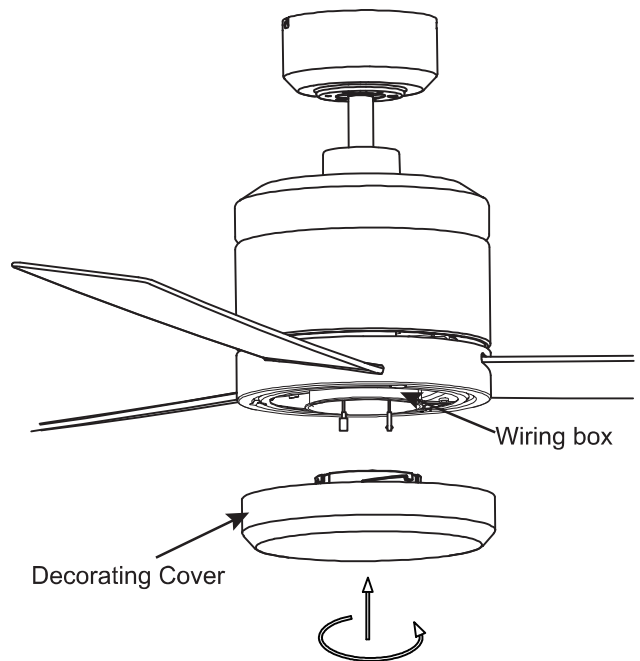

Fig.16 Clockwise rotation for locking
Step 2 Place the light fixture into the electrical switch housing aligning the three flat areas on the light fixture with the three raised dimples in the light fixture. Turn the light fixture clockwise until it stops.(Fig.16)